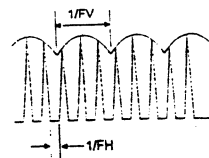

Figure 3-5 Collector of Q303 Output Pulse Correction Wave
2. The sawtooth wave is output from Pin 9 of IC302 and through C350 and R364 and input to Pin 2 of IC601 (DC to DC circuit). It is then output from Pin 6 of IC601 and after being sent to T603's second coil output, is added to horizontal B+ to provide pincushion and trapezoid distortion correction. So, is created to preform amplitude modulation on the horizontal deflection output pulse, as shown in figure 3-5.